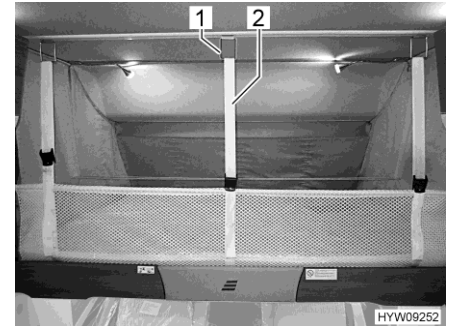

Fig. 102 Safety net (pull-down bed)
- Release retaining belts (Fig. 102,2) and place safety net underneath mattress.
- Attach the retaining belts (Fig. 102,2) to the hooks (Fig. 102,1) on the ceiling.